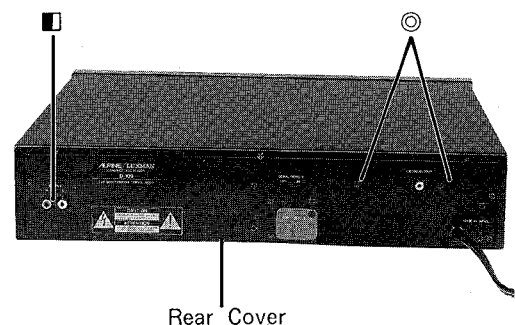

Figure 10
- (1) Remove two screws marked "◎" as shown in Figure 10.
- (2) Disconnect a connector from Digital Out P.C. Board